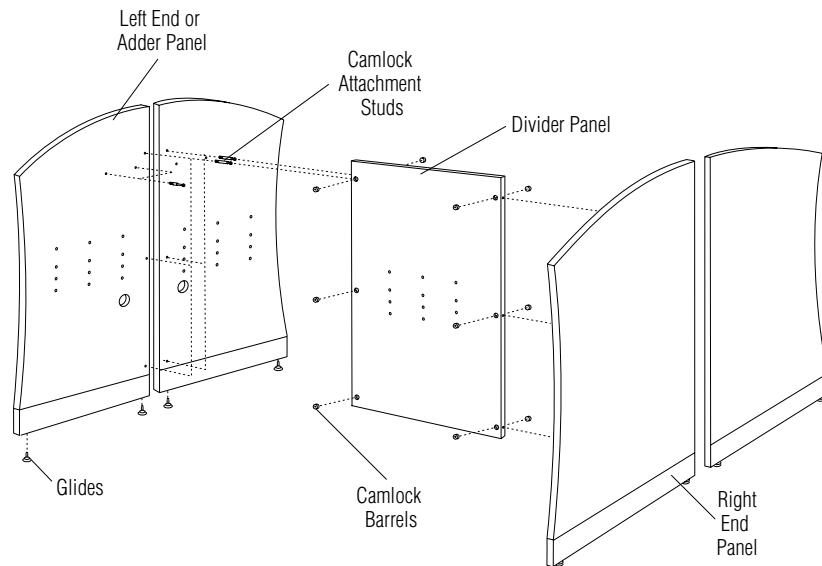

Figure 9
17. Insert 3 larger camlock attachment studs (for divider panel) in the facing end panel and tighten (Figure 9).